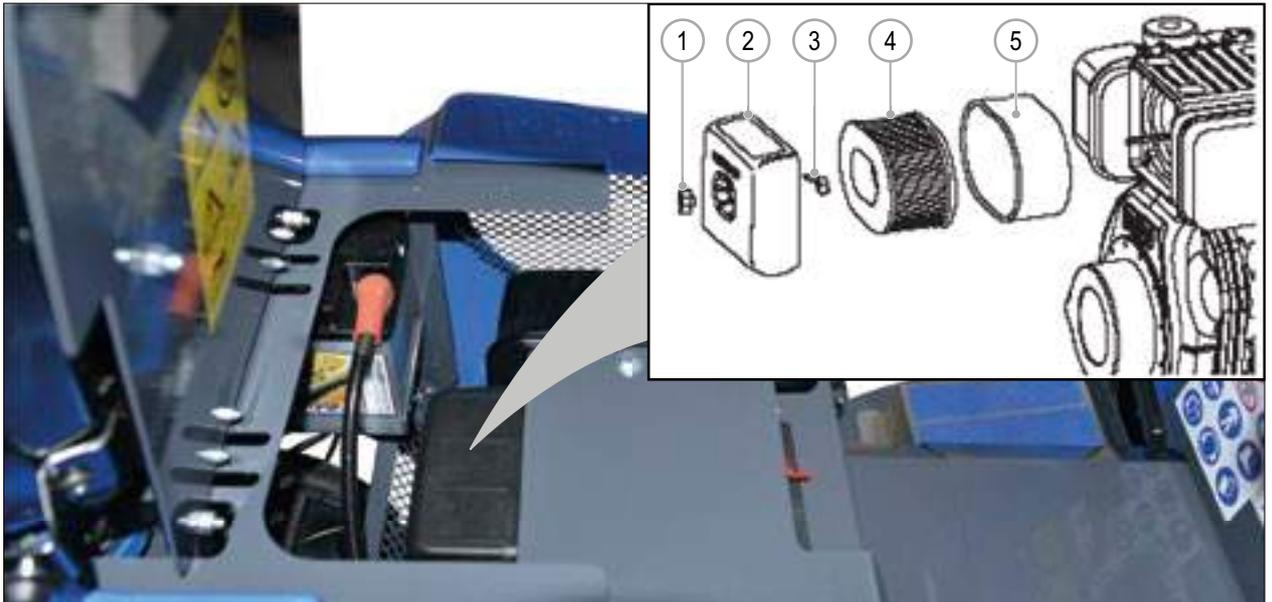

FIG. 26
- 4) Loosen the fastener (FIG. 26 - Ref. 1) that secures the air filter cover.
- 5) Remove the air filter cover (FIG. 26 - Ref. 2).
- 6) Loosen the fastener (FIG. 26 - Ref. 3) that secures the air filter.
- 7) Remove the air filter (FIG. 26 - Ref. 4) and the pre-filter (FIG. 26 - Ref. 5).
- 9) Reinstall the air filter (FIG. 26 - Ref. 4) and secure it with the fastener (FIG. 26 - Ref. 3).
- 10) Insert the pre-filter (FIG. 26 - Ref. 5) on the air filter (FIG. 26 - Ref. 4).
- 11) Reinstall the air filter cover (FIG. 26 - Ref. 2) and secure it with the fastener (FIG. 26 - Ref. 1).